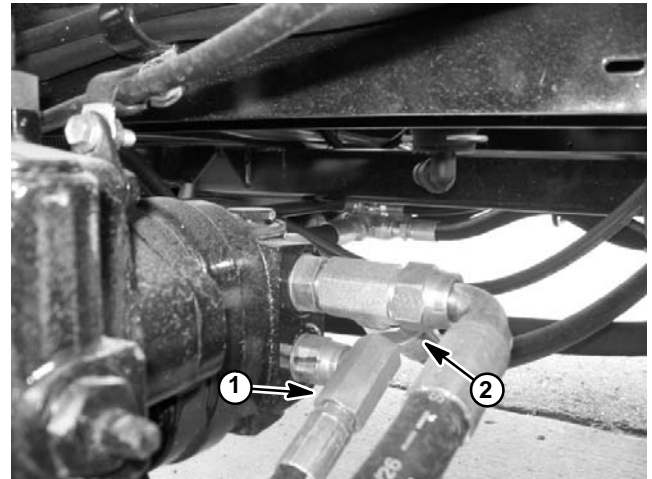

Figure 16
3. With the engine off, clean hose fitting and disconnect one of the circuit pressure hoses from the gear pump (Fig. 16). Install tester with pressure gauges and flow meter in series between the gear pump and the disconnected hose. **Make sure the tester flow control valve is open.**